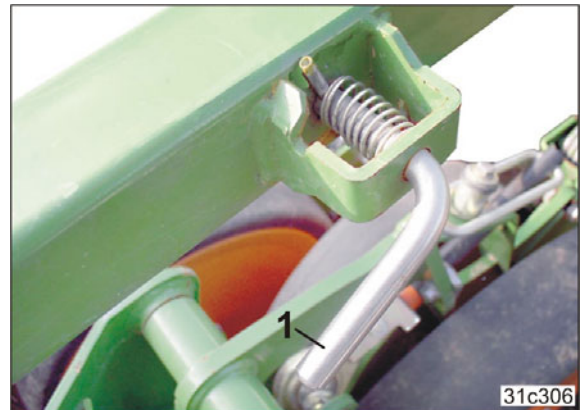

Fig. 217
- 7.1 Actuate the lever (Fig. 217/1) and push in the track marker. Ensure that the lever engages after each adjustment as shown.